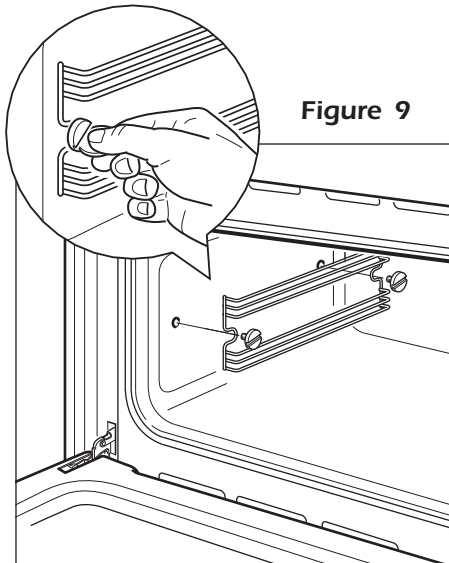

Figure 9
- Assemble the wire racks to the oven walls using the 2 screws (Fig. 9).
- Unscrew the fixing screws and slide off the wire racks to the oven wall as in fig. 9. The grill is secured to the rear wall of the oven on a hinge system that allows it to be lowered to allow proper access when cleaning the oven ceiling (see page 14).